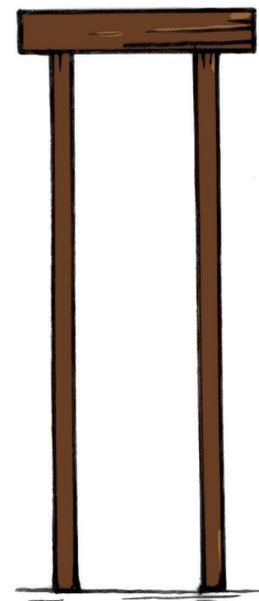

Figure 25
6. A design for a small table is shown in Figure 25. In what ways could this table fail to work?